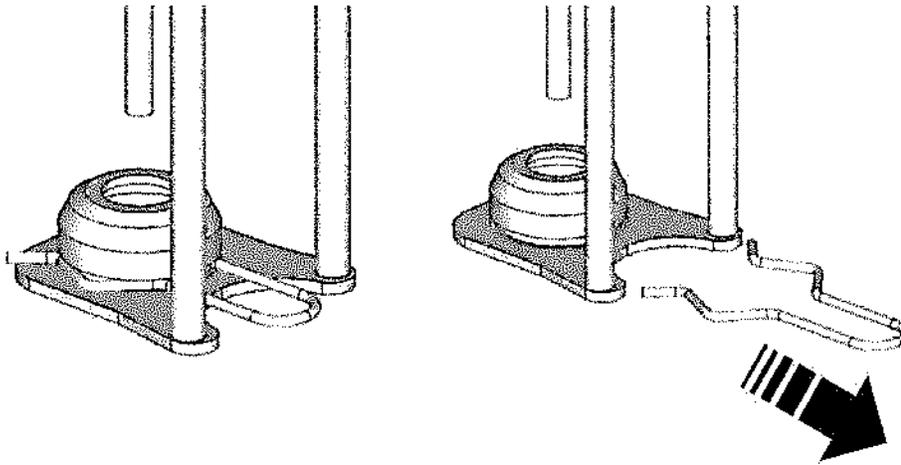

fig.20
- Firmly pull the elastic fastening washer of the centering device (fig.20)